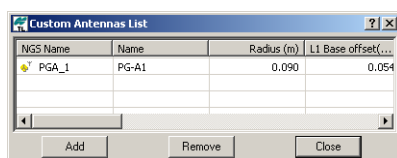

Figure 4-83. Custom Antenna List
2. To remove an antenna, click on the antenna's row and click **Remove** (Figure 4-83 on page 4-63). Click **Add** to display the *New Custom Antenna* dialog box.